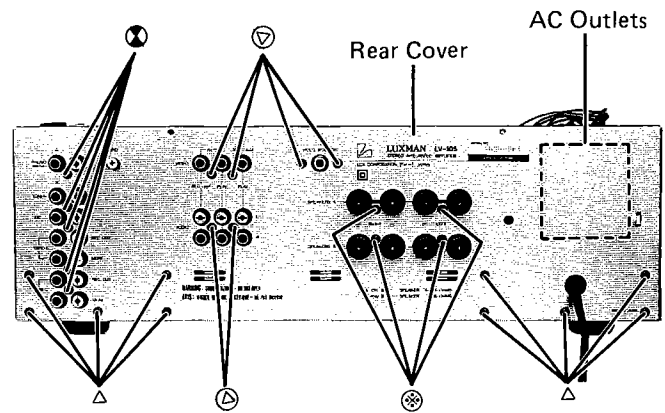

Figure 10
- (1) Remove six screws marked "▽" as shown in Figure 10.
- (2) Disconnect all wires from there P.C. Board.
- (1) Remove four screws marked "⊗" as shown in Figure 10.
- (2) Disconnect all wires from the Speaker Terminal P.C. Board.
- (1) After removal of Equalizer P.C. Board remove ten screws marked "△" as shown in Figure 10.